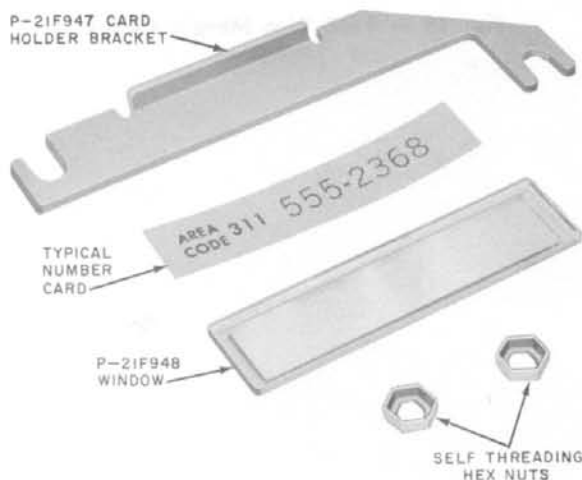
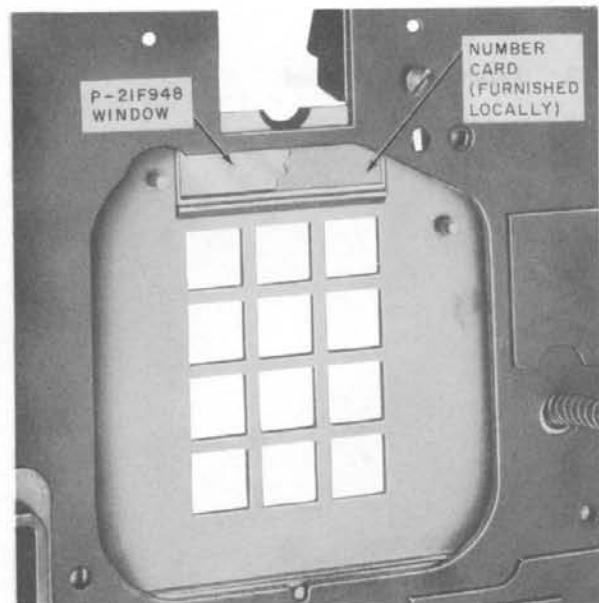

Fig. 16 — Number Card and Associated Hardware (TOUCH-TONE)
Fig. 17 — Window and Number Card Installed in Faceplate (TOUCH-TONE)
- (b) A P-21F947 card holder bracket, P-21F948 window, and two hex nuts (Fig. 16) are packaged separately and shipped in the cash compartment.
- (1) Remove dial housing.
- (2) Insert P-21F948 window in faceplate from rear (Fig. 17).
- (3) Insert number card in window (Fig. 17).